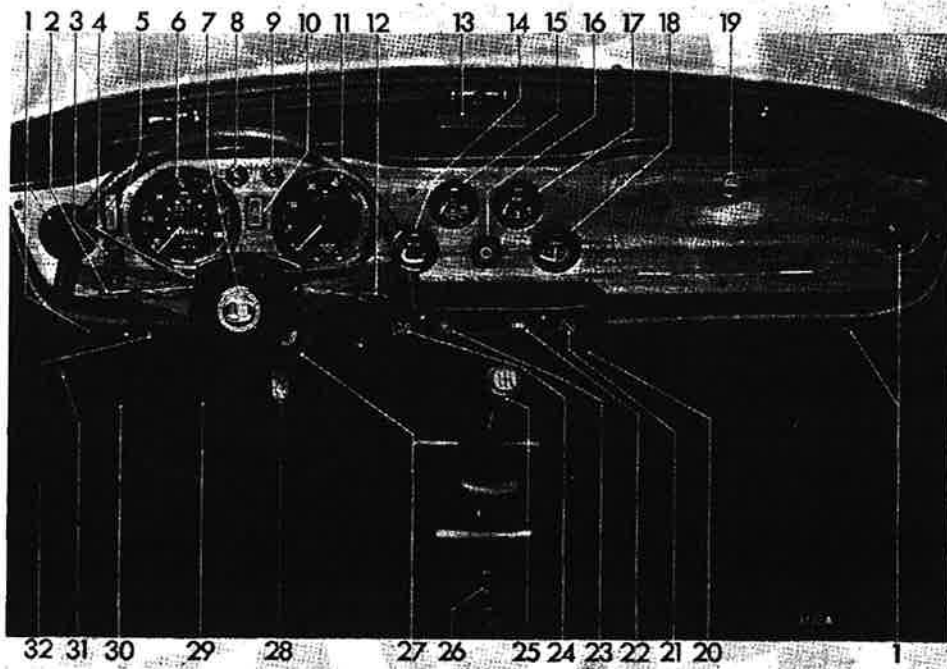

Fig. 2
**KEY TO FIG. 2**
The controls, instruments and indicators shown on Figs. 2 and 6 and described in the following pages are positioned within easy reach of the driver to afford maximum ease of operation and minimum distraction. The bracketed figures in the text cross-refer with the key on page 7.